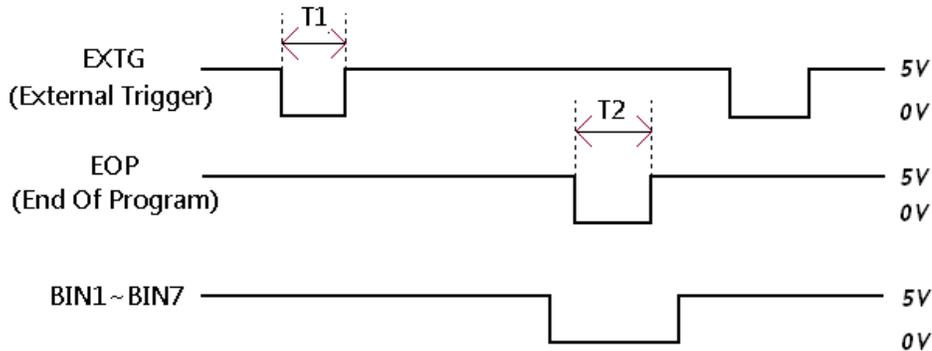

Fig. 2-36
- 2) Input a low pulse on the EXTG Pin to start programming as described by T1 in Fig. 2-36. This operation is the same as pushing the red programming button on the e-WriterPro.
- 3) Now the EOP pin can be polled continuously. If a low pulse is detected, as shown by T2 in Fig. 2-36, this means that the programming process has completed.
- 4) During the EOP low pulse duration, as shown by T2 in Fig. 2-36, the status of the BIN1~BIN7 pins can be monitored to obtain the programming result. For example, if BIN1 is low within the T2 period, then this means PROGRAM OK. If BIN4 is low during the T2 period, then this means PROGRAM FAIL because the device is not blank.